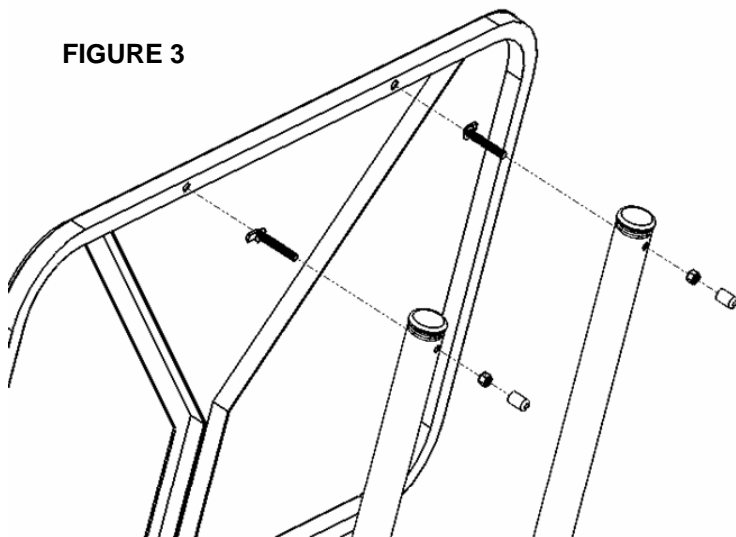

FIGURE 3
3. Attach the backboard to the posts by placing the L bolts through the top holes of the posts as shown in **FIGURE 3** and fastening with the 3/8" lock nuts. Do not completely tighten at this time. Do not place the black nut caps over the lock nuts until later in the assembly process.